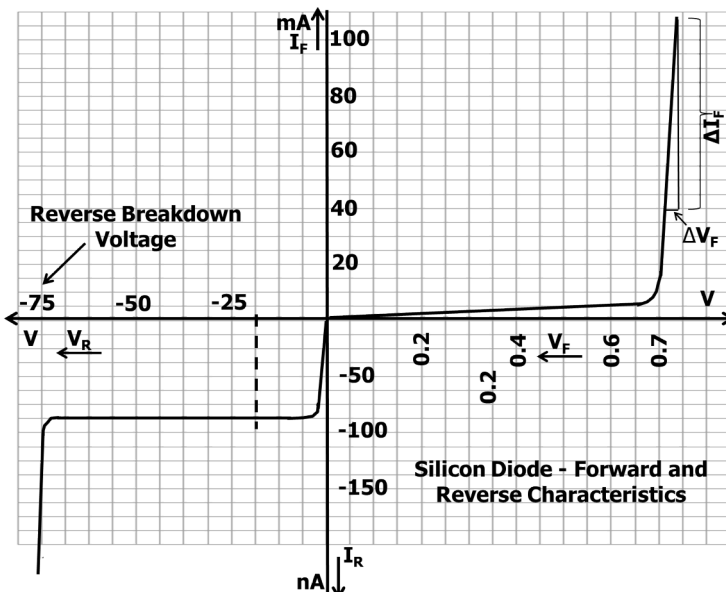

Fig 2.5 Silicon diode – Fwd and Rev characteristics
### 2.2.2 Forward characteristics (Silicon): Refer fig 2.5
**Problem 2.2:** In fig 2.5, calculate the reverse resistance of the silicon diode at VR = 20V.
Recall the forward resistance that was calculated in problem 2.1.  $R_F = \frac{V_F}{I_F}$ . This is the **DC resistance** of the diode, at one particular value of forward current. When the input varies by  $\Delta V_F$ , there will be large variation, in forward current ( $\Delta I_F$ ). This is shown in fig 2.5
However, in practice, it is different as seen already in figures 2.5 and 2.6.
The smooth diode curve of fig 2.5 or 2.6 can be approximated by taking samples at very close intervals and interconnecting adjacent samples through short straight lines.